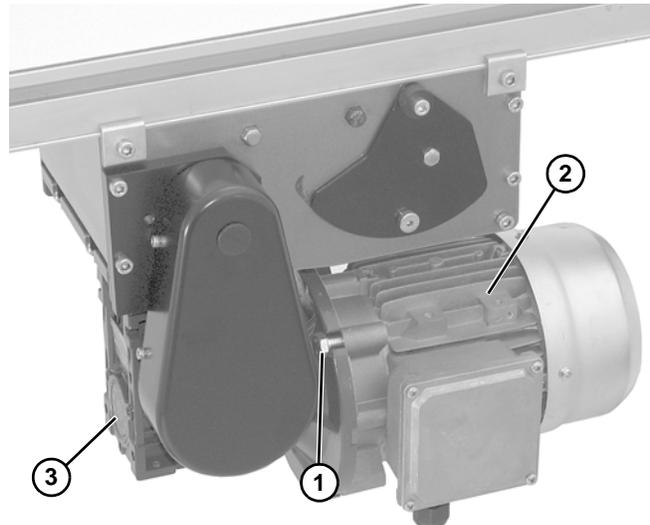

Figure 28
4. Remove four screws (Figure 28, item 1). Detach motor (Figure 28, item 2) from gear reducer (Figure 28, item 3). Retain motor output shaft key.
5. Apply anti-seize to motor shaft before assembling to gearbox. With key in keyway, slide motor (Figure 28, item 2) and gear reducer (Figure 28, item 3) together. Install screws (Figure 28, item 1) and tighten.